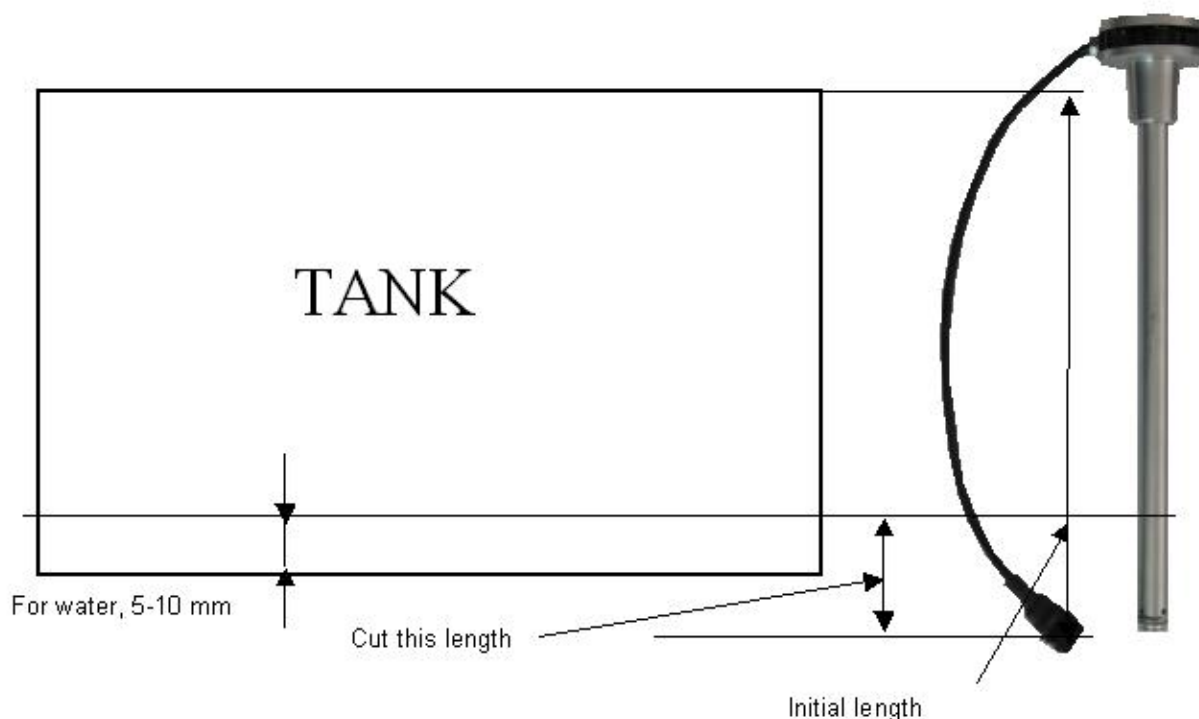

Fig. 5 Cutting a sensor
2) Cut a FLS for desired length with saw – see fig. 5. You should leave about 5-10 mm for water on a bottom of the tank. For Strela A, Strela F: Length of sensor after cutting should be not less than 30 and 50% of initial length accordingly! If your tank needs a shorter sensor – you need Strela with shorter initial length!